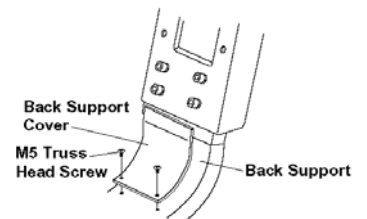

Fig.3-5 Fixing Backr Support Cover
- (8) Placez le couvercle du support arrière (Fig 3-5)